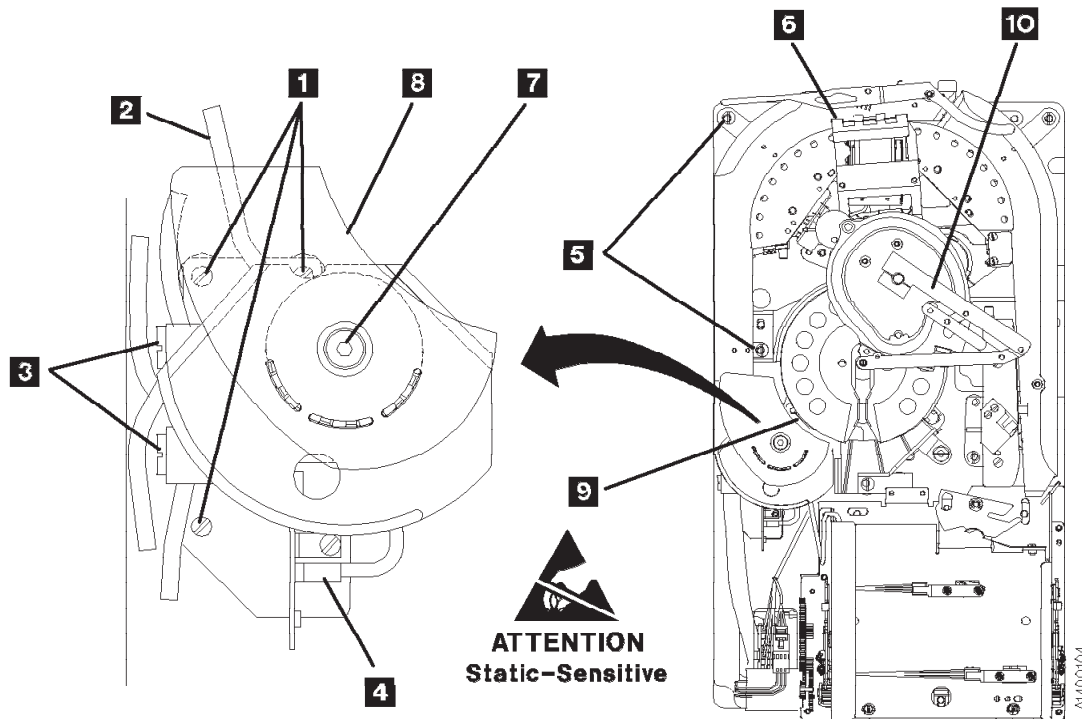

Figure 10-55. Tension Transducer Assembly
4. See Figure 10-55. Install the orange head protector P/N 45G0145 on the head **6**.